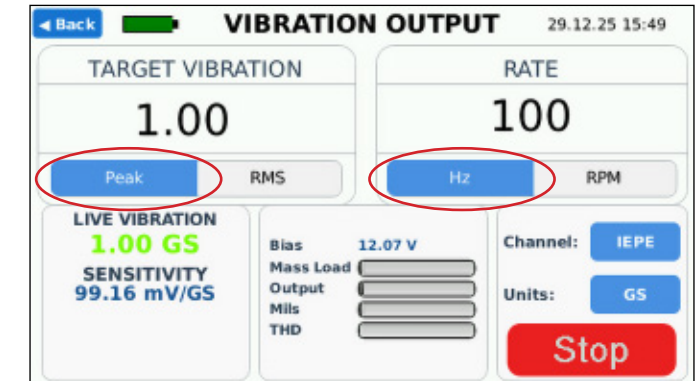

Figure 12
- c. Adjust the units shown onscreen as needed (Figure 11 and Figure 12):